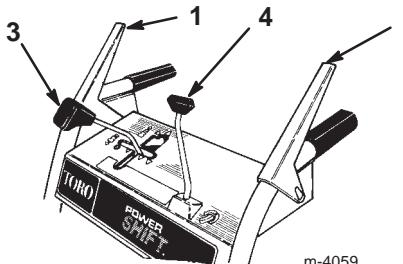

Figure 13
- **Auger/Impeller Drive Control Lever** (Fig. 13)—To engage both the auger and impeller, press the lever against the right handgrip. To disengage, release the lever.
- **Traction Control Lever** (Fig. 13)—To engage the traction (wheel drive), press the lever against the left handgrip. To stop the traction, release the lever.
- **Speed Shift Control** (Fig. 13)—This control has a neutral position, four forward speeds, and two reverse speeds. It also controls the power shifting of the wheels. To select a speed, move the shift control to the desired position.
- **Discharge Chute Control** (Fig. 13)—Rotate the discharge chute control clockwise to move the discharge chute to the right; counterclockwise to move the chute to the left.
3. Release the auger/impeller drive control lever and the traction control lever (Fig. 13).
1. Release the traction control lever (Fig. 13).